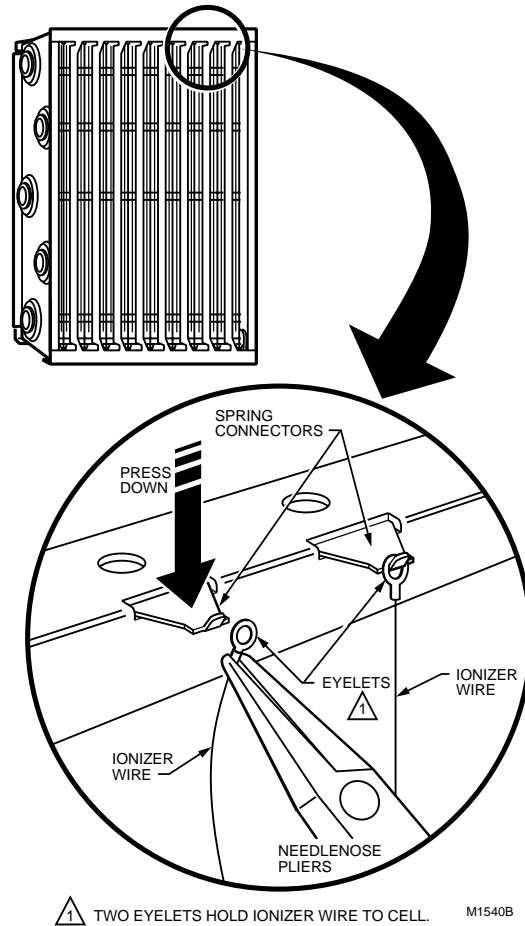

Fig. 8. Replacing ionizer wire.
1. Hook eyelet on one end of wire over spring connector on one end of cell. See Fig. 8. Be careful to avoid damaging spring connector or another cell part.
2. Hold opposite eyelet with needlenose pliers and stretch wire the length of the cell. Depress the opposite spring connector and hook the eyelet over it. See Fig. 8